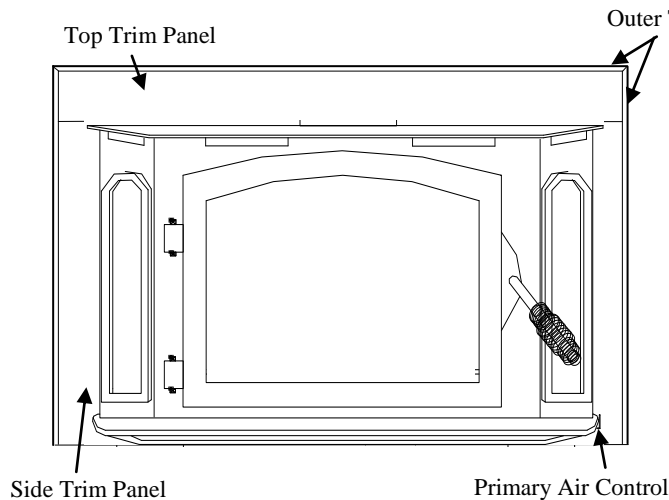

FIGURE 4
9. Obtain brass trim kit provided with insert kit and slip over top and sides of trim panels. Top ends of brass may need to be trimmed to fit (See Figure 4, Page 10).
**Primary Air Control:** The primary air intake draft control is located at right bottom side of hearth. It is operated by moving handle **out** to open (to allow air into firebox) or **in**, to control or close off air into firebox. (See Figure 4).